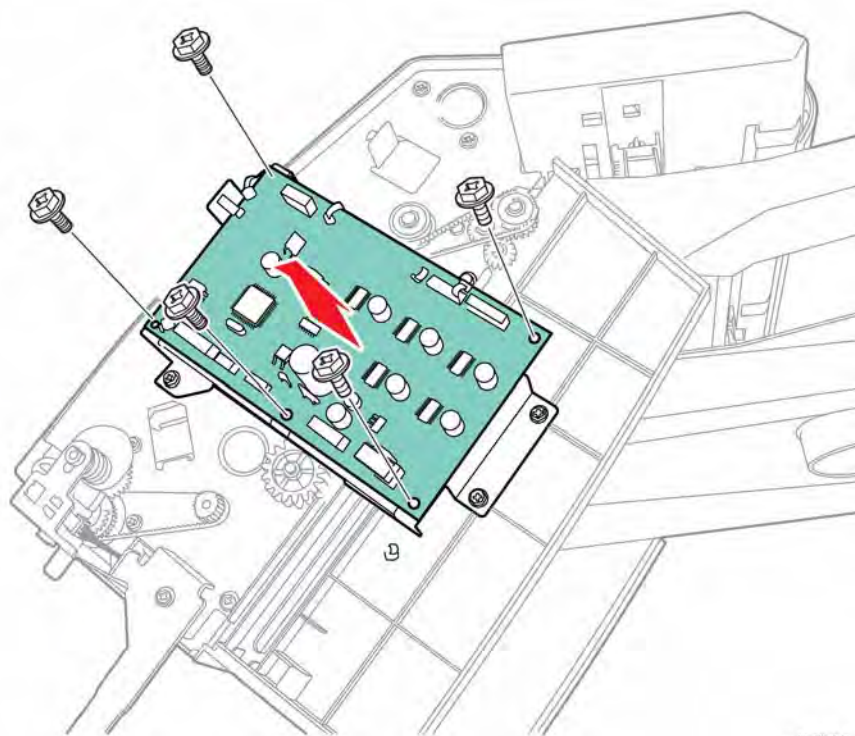

Figure 1 Remove the Finisher Control Board
4. Remove 5 screws (metal) that secure the board to the bracket, Figure 1.